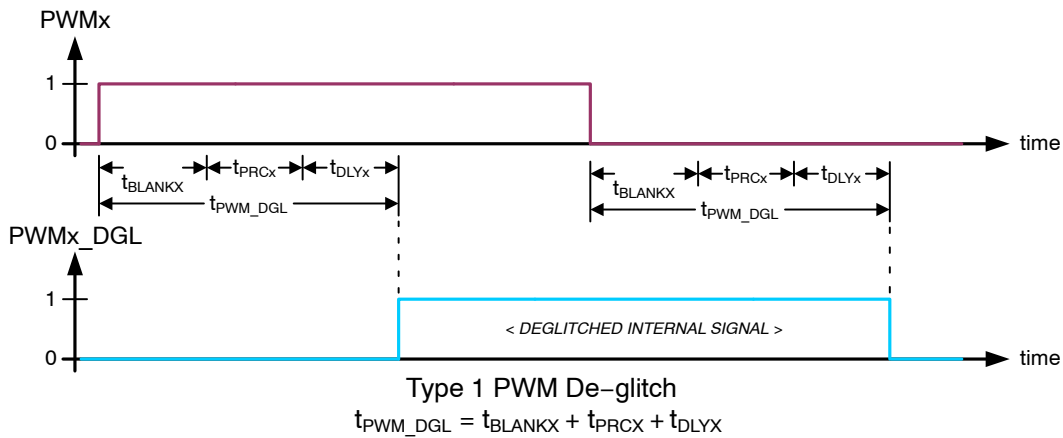
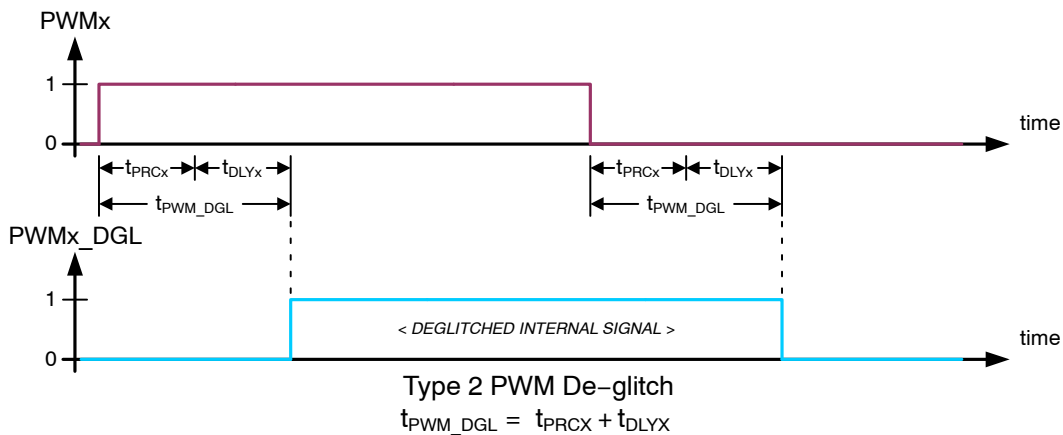

Figure 10. Type 1 PWMx Input De-glitch - CR14.DGLx = 0
Figure 11. Type 2 PWMx Input De-glitch - CR14.DGLx = 1
When multiple PWMx inputs are needed to be active, the scheduled PWM signals should be offset in time to avoid degradation of the VDS overload detection due to crosstalk (see § *Overload Protection*). The minimum offset should be based on the tPWM\_DGL times appropriate for the respective channels (see § *Switching Behavior of Half-bridge Drivers*, Figure 10 and Figure 11).
- adaptive PWM input de-glitch construction when in half-bridge configuration is selected by DGLx[6:0] bits (see Figure 10, Figure 11, Table 21 and Table 22).
When operating HB1...HB7 in PWM mode and in half-bridge configuration, type 1 de-glitch is selected when CR14.DGLx = 0 (see Figure 10) and the adapted time is given by:
Type 2 de-glitch is selected when CR14.DGLx = 1 (see Figure 11) and the adapted time is given by:
- the  $PWMx\_DGL$  resulting from the channel's operating configuration (see § *Switching Behavior of Half-bridge Drivers*, Figure 10 and Figure 11);